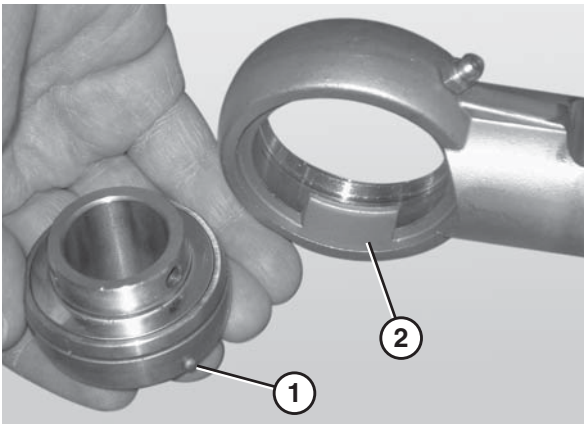

Figure 84
5. Remove the worn or damaged bearing (Figure 84).
When inserting the new bearing, make sure the anti-rotation notch (Figure 84, item 1) on the bearing lines up with the groove inside the housing (Figure 84, item 2).